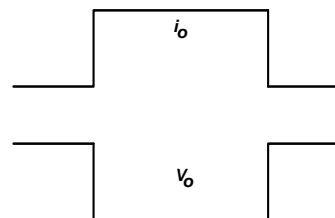
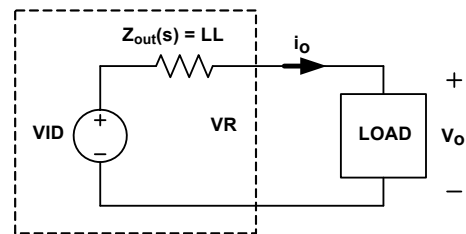

FIGURE 21. DESIRED LOAD TRANSIENT RESPONSE WAVEFORMS
FIGURE 27. VOLTAGE REGULATOR EQUIVALENT CIRCUIT
Assuming the compensator design is correct, Figure 21 shows the expected load transient response waveforms if C_n is correctly selected. When the load current I_{core} has a square change, the output voltage V_{core} also has a square response.
Figure 21 shows the desired load transient response waveforms. Figure 27 shows the equivalent circuit of a voltage regulator (VR) with the droop function. A VR is equivalent to a voltage source (= VID) and output impedance $Z_{out}(s)$. If $Z_{out}(s)$ is equal to the load-line slope LL, i.e., a constant output impedance, then in the entire frequency range, V_o will have a square response when I_o has a square change.